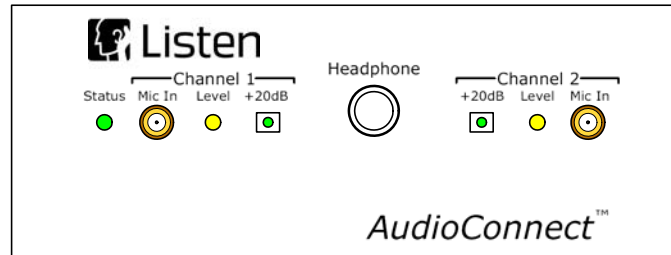

Figure 1-1: Front Panel
- Gain: 0 dB or 20 dB, front panel switchable. See Figure 1-1.